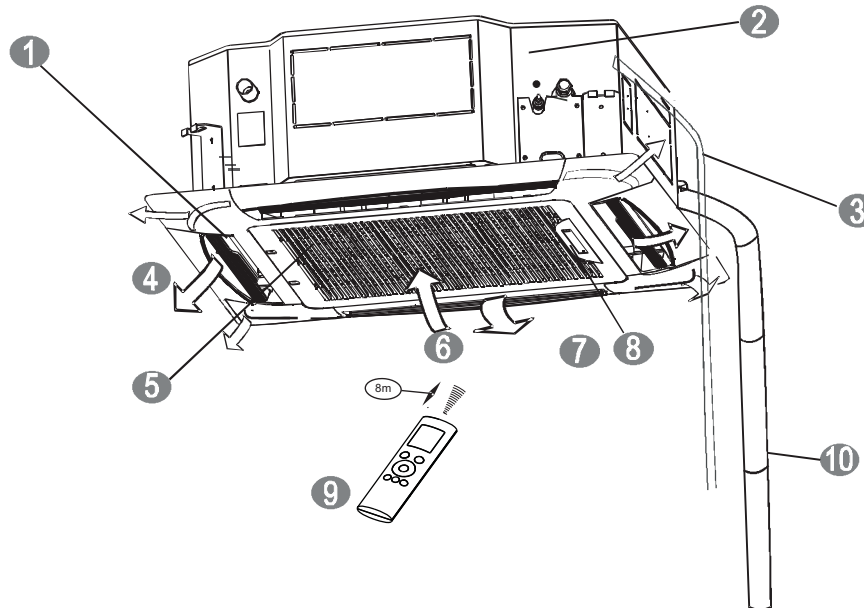

Fig. 1 - Parts List
- Fig.1 is only a sketch. Different models may differ slightly.